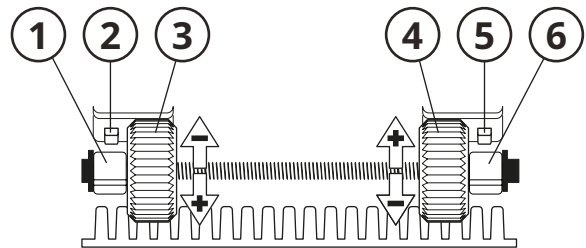

Fig. 7
Rotate the drum counterclockwise as viewed from the motor side until the roll-out wheel (3, Fig. 7) is obstructed by the stop clip (1). This is indicated by a rattling sound.
- 5. Remove stop clip for roll-out (1, Fig. 7).
- 9. Remove stop clip for retraction (6, Fig. 7).
2. Adjust end positions by turning the retraction and roll-out wheels (3, 4, **Fig. 7**).